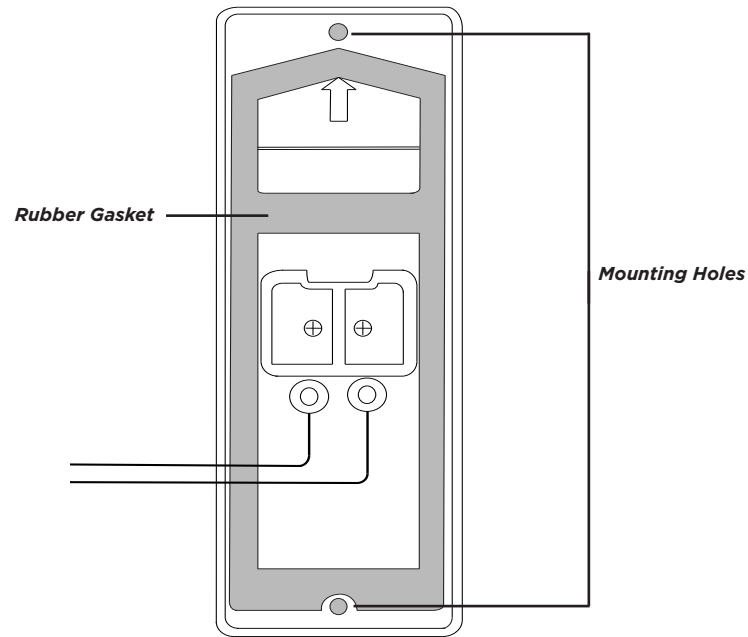

Figure 2: Connecting the Power Cables
2. Place the rubber gasket on the back of the doorbell as shown in Figure 2.